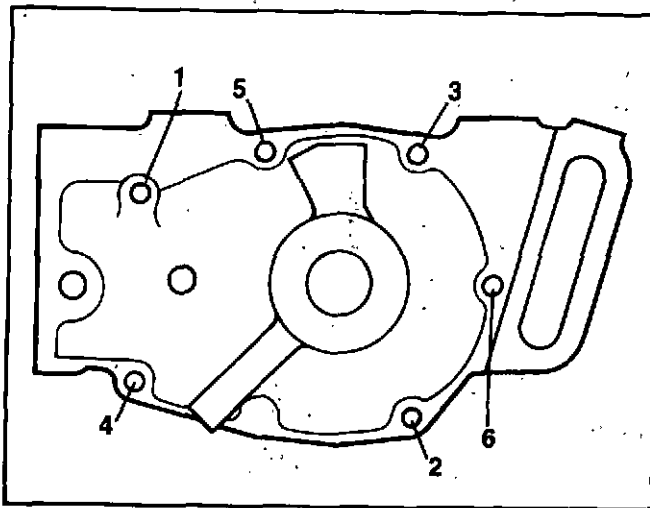

Fig. 14-52. The Tightening Sequence For The Water Pump With Idler Pulley.
2. Tighten the capscrews in the sequence shown in Fig. 14-52.